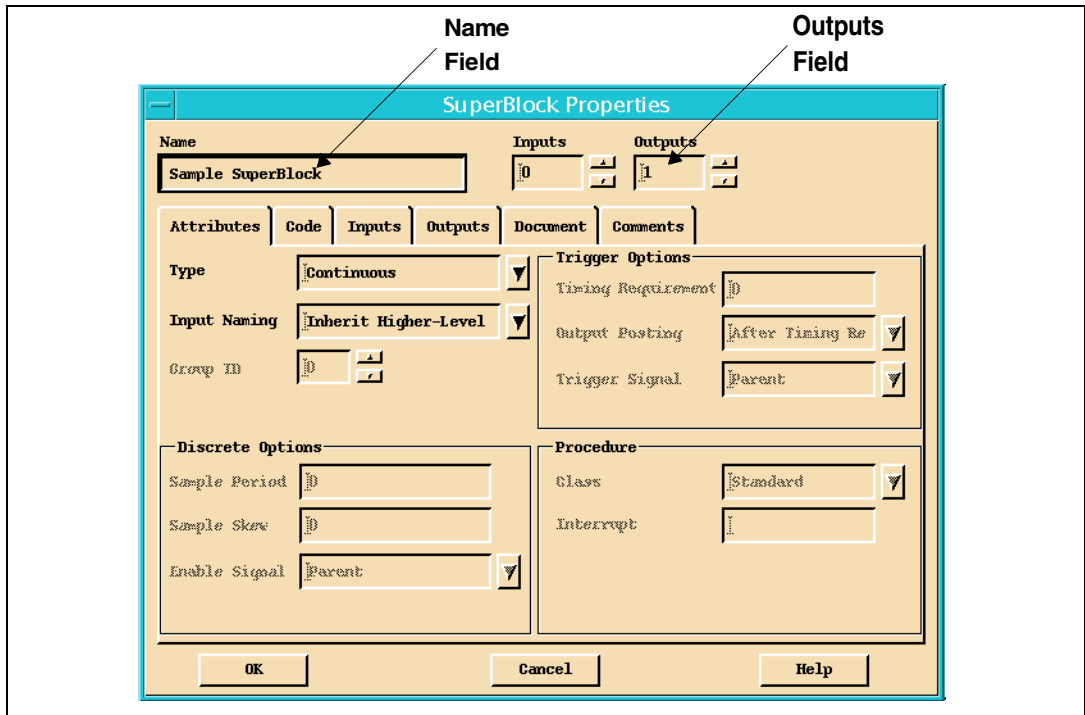

Figure 4-5. SuperBlock Properties Dialog for Creating a New SuperBlock
2. Within the SuperBlock Properties dialog, shown in Figure 4-5, perform the following steps: